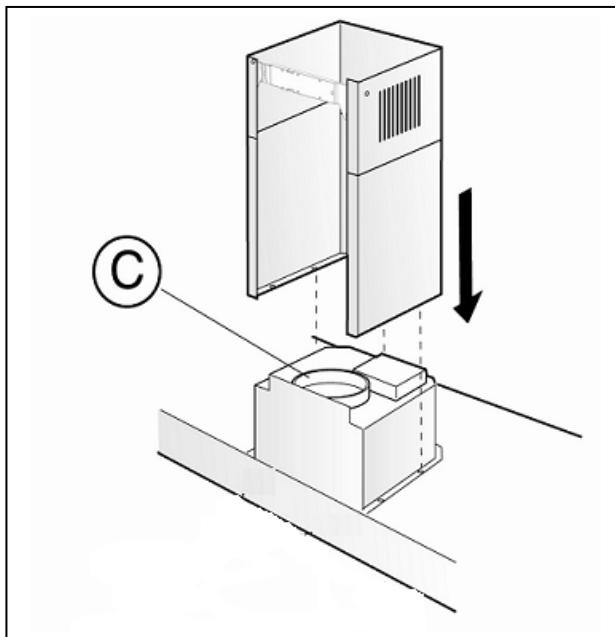

Fig 4
Step 4: Place the lower section of chimney cowling over the upper section and lower into place as shown in (Fig 4).